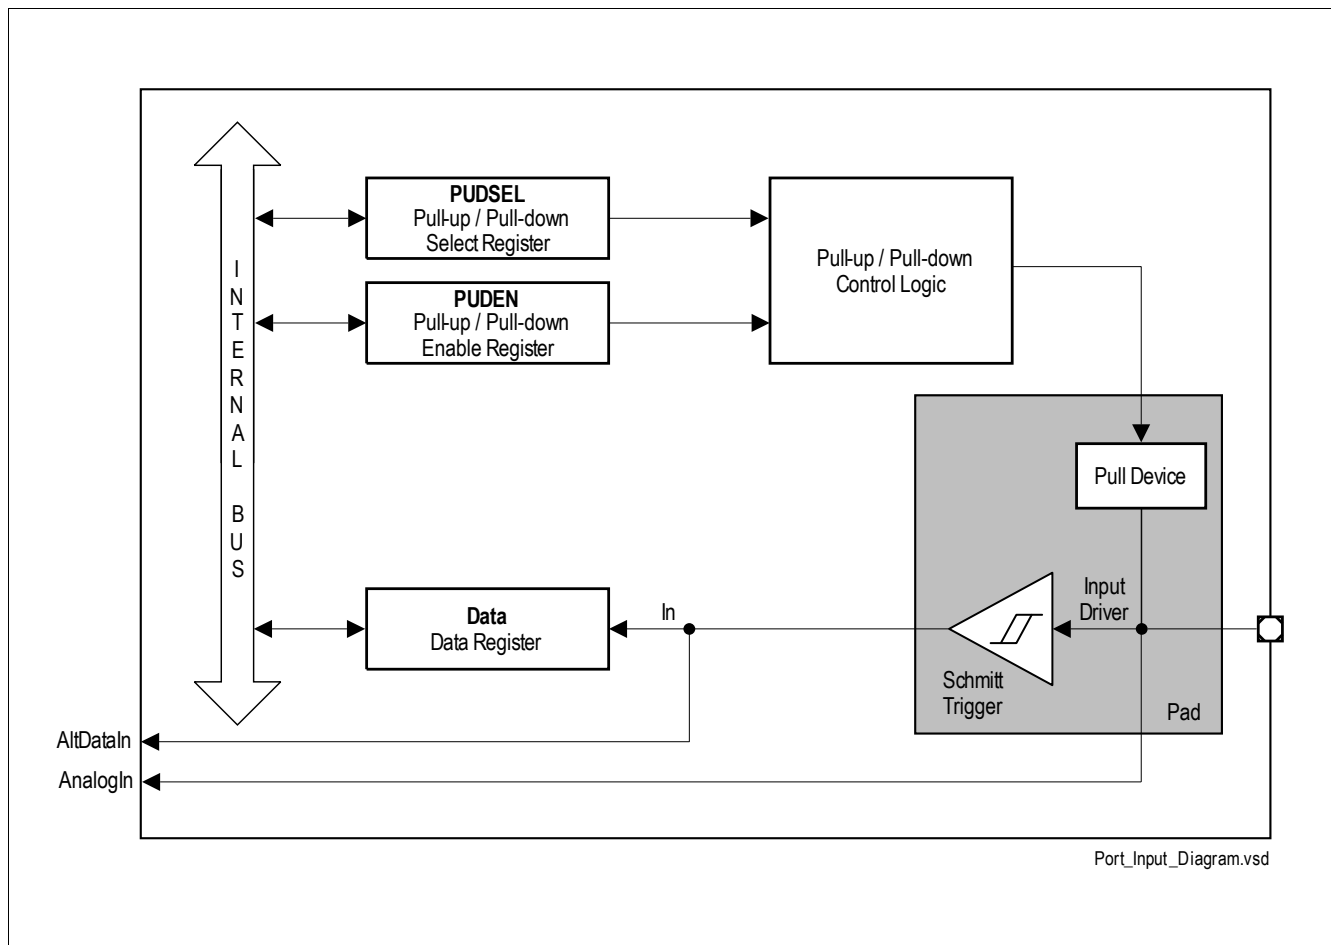

**Figure 20 General Structure of Bidirectional Port**
**Figure 20** shows the block diagram of an TLE9851QXW bidirectional port pin. Each port pin is equipped with a number of control and data bits, thus enabling very flexible usage of the pin.